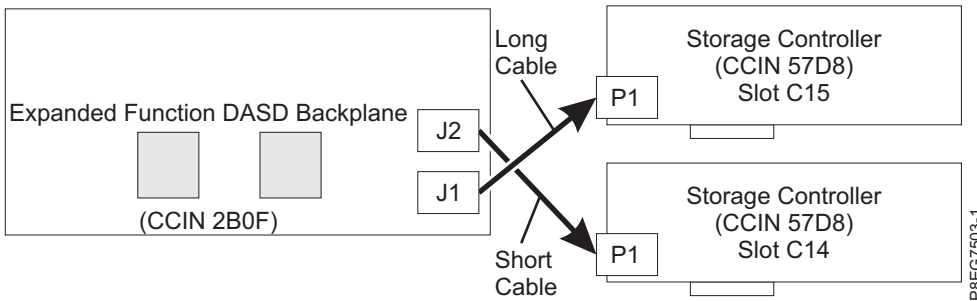

Figure 7. Reconnecting the SAS cable in an expanded function configuration
- If you have two PCIe3 x8 cache SAS RAID internal adapters (CCIN 57D8) (expanded function), the short SAS cable connects the upper disk drive backplane connector (J2) to the P1 connector on the SAS RAID internal adapter in slot P1-C14. The long SAS cable connects the lower disk drive backplane connector (J1) to the P1 connector on the SAS RAID internal adapter in slot P1-C15. See Figure 7.